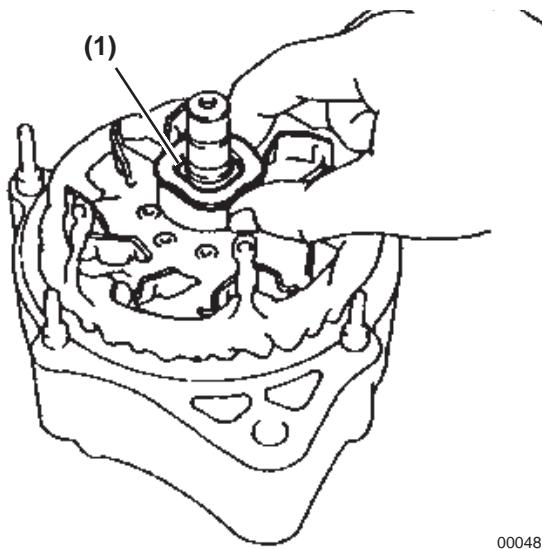

Figure 11-36
2. Install the rectifier end frame onto the rotor and drive end frame then install the alternator washer (Figure 11-36, (1)) above the rotor.